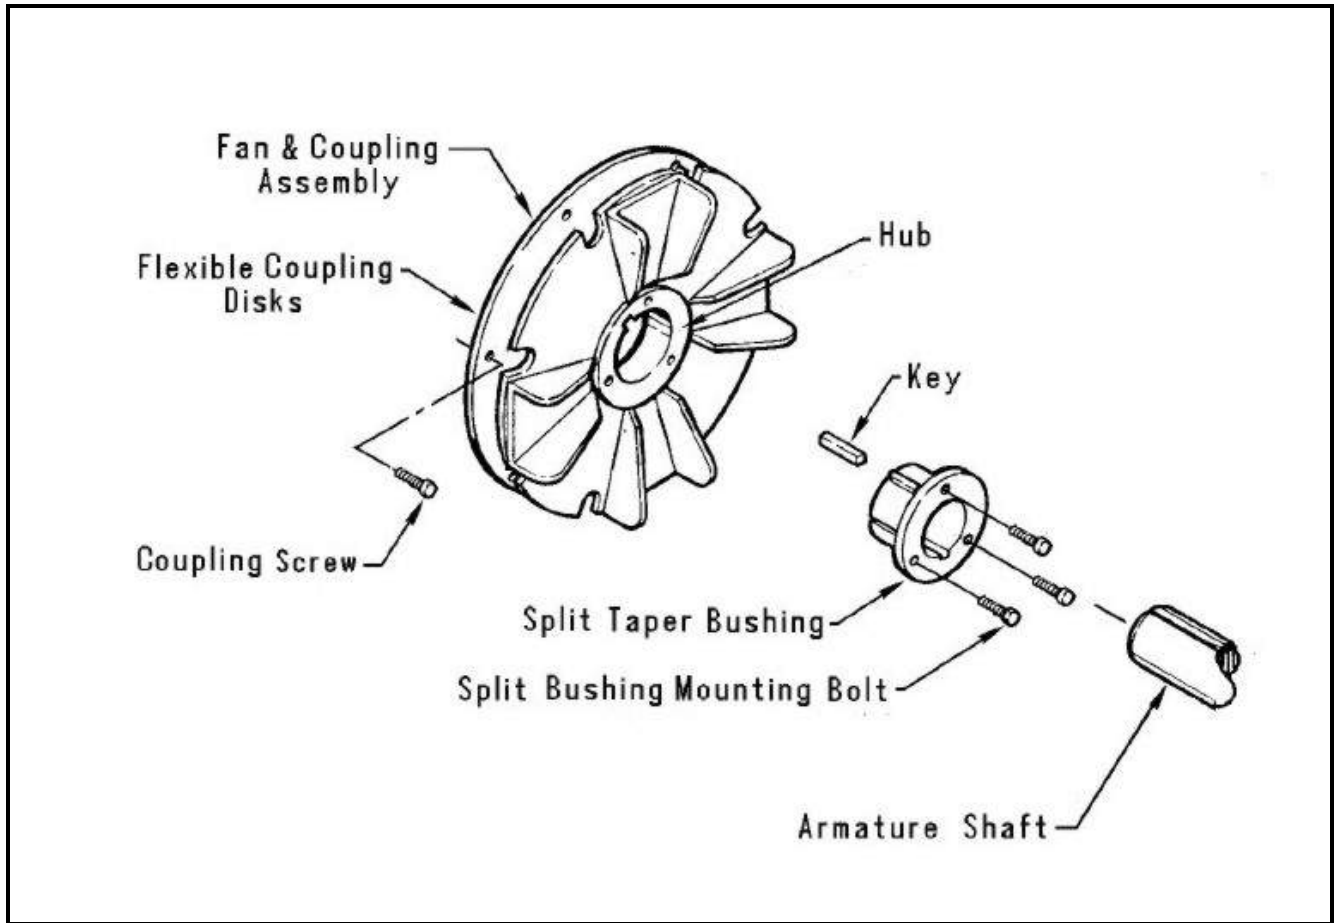

Figure 4 Assembly Procedure Illustration
b) Assembly (Reference Figure 4)
11. Lubricate the three bushing screws SPARINGLY and start them into the three (unthreaded) holes finger-tight (See Figure 4).